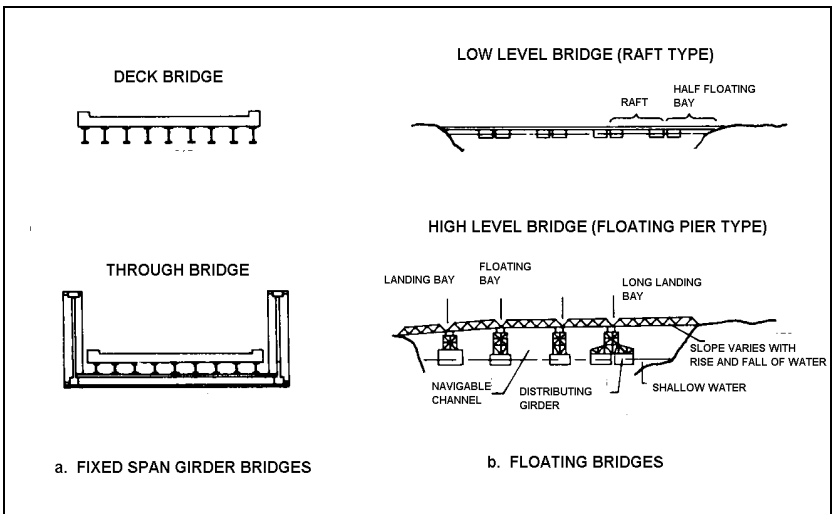

Fig 14-1-1 Types of Bridges
3. Floating bridges may be either low level or high level (Fig 14-1-1). The latter are used to give clearance beneath the spans for river traffic or where the banks are high and steep or where the river is subject to tidal or seasonal variations.